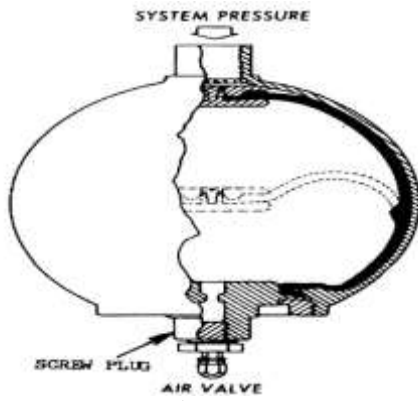

Figure 6
**d. Diaphragm Accumulator.** The diaphragm accumulator consists of two hollow, hemispherical metal sections bolted together at the center. Notice in Figure 6 that one of the halves has a fitting to attach the unit to the hydraulic system; the other half is equipped with an air valve for charging the unit with compressed air or nitrogen. Mounted between the two halves is a synthetic rubber diaphragm that divides the accumulator into two sections. The accumulator is initially charged with air through the air valve to a pressure of approximately 50 percent of the hydraulic system pressure[2]. This initial air charge forces the diaphragm upward against the inner surface of the upper section of the accumulator. When fluid pressure increases above the initial air charge, fluid is forced into the upper chamber through the system pressure port, pushing the diaphragm down and further compressing the air in the bottom chamber. Under peak load, the air pressure in the lower chamber forces fluid back into the hydraulic system to maintain operating pressure. Also, if the power pump fails, the compressed air forces a limited amount of pressurized